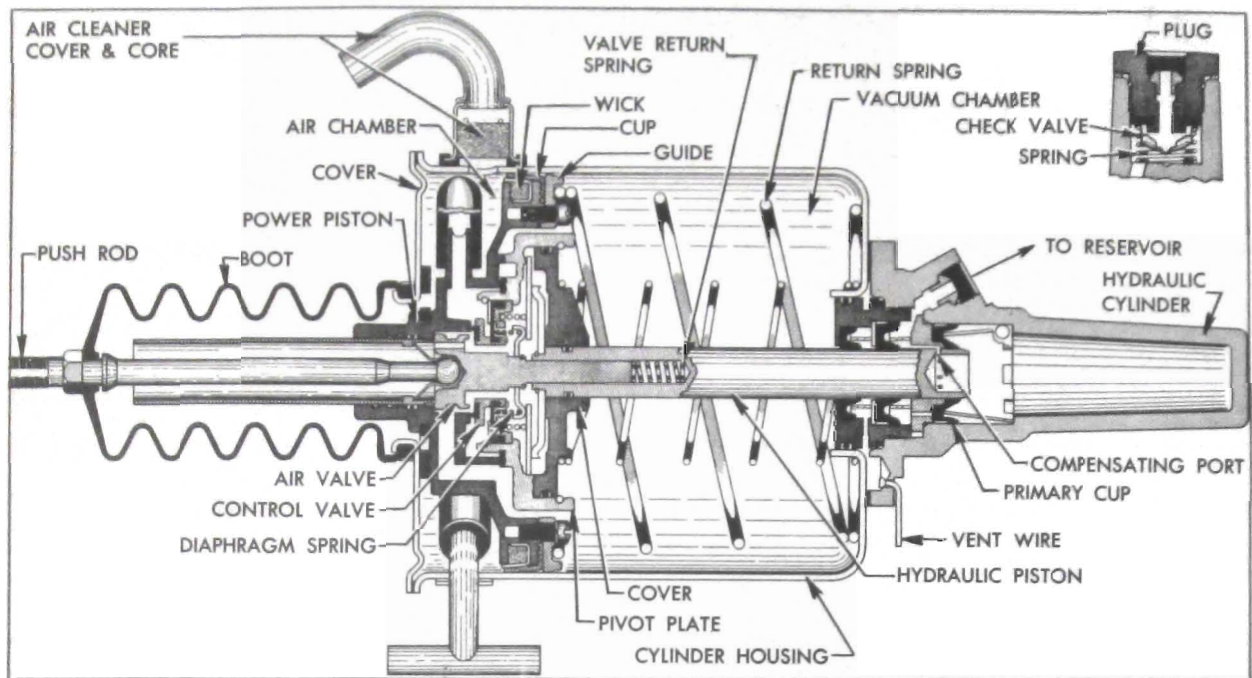

Figure 9-13—Unapplied Stage
As shown in figure 9-13, a cover closes the forward end of the cylinder housing to form a large chamber in which the power piston and related parts operate. The section on the cover side of the piston will be called the *air* chamber since it is open to atmospheric pressure at all times. The section on the opposite side of the piston will be called the *vacuum* chamber since it is subjected to manifold vacuum during
(1) *Unapplied Stage.* See figure 9-13. The pedal return spring holds the push rod and attached air valve forward so that the air valve is held clear of the floating control valve. At the same time, the valve diaphragm spring holds the floating control valve against its seat on the power piston, thereby closing the passage connected to manifold vacuum.
(5) *Releasing Stage.* When foot pressure on brake pedal is released, the pedal return spring pulls the push rod forward to relieve pressure on the air valve. The valve return spring forces the air valve away from the floating control valve, which is seated against the power piston to close the vacuum passage. Since both sides of the power piston are now open to atmospheric pressure, the piston return springs force the power piston and related parts forward to the unapplied position (fig. 9-13).
NOTE: Refer to figures 9-13 and 9-14 for identification of parts not otherwise illustrated.
NOTE: Refer to figures 9-13 and 9-14 for identification and location of parts not otherwise illustrated.